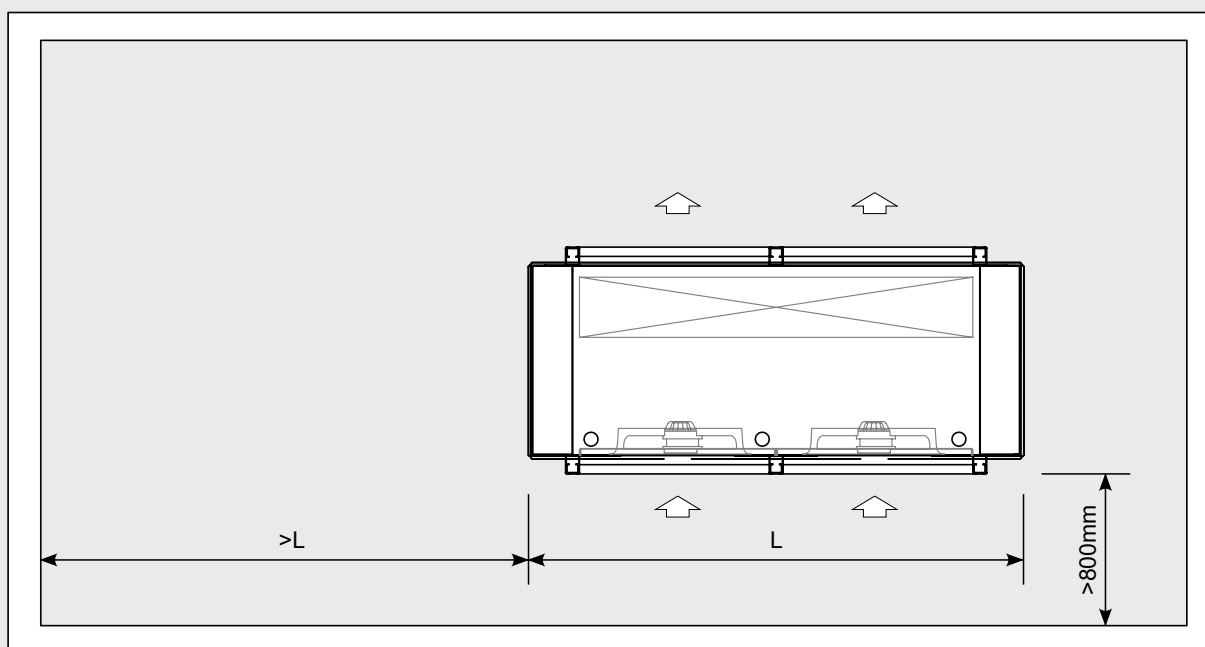

Figure 3
- 6.9 Ensure an adequate free space (approx. 30% of the inner room volume) to allow a proper intake and exhaust air circulation. Keep the minimum distance so as to take out / insert the heaters. See Figure 3 and Figure 4.